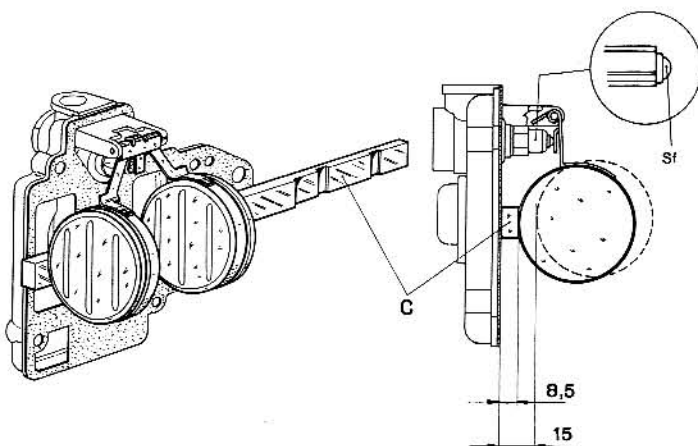

FIG. 44
a) by a special gauge rod **C** - **Fig. 44** - taking care not to push in the ball of the spring-dampened valve. Usually, the cover gasket is removed if **to do this it is unnecessary** to take out the float;